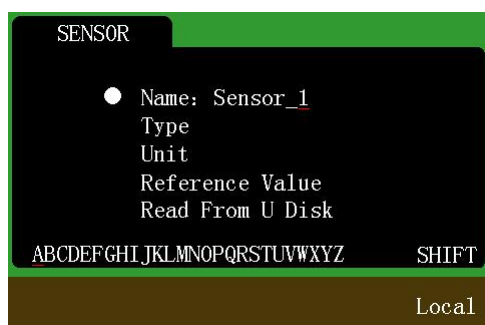

Figure 5-23 Name the sensor item
1. When the dot cursor stays at "Name", press the left / right arrow key or the Enter key to name the sensor item, as shown in Figure 5-23. In this interface: